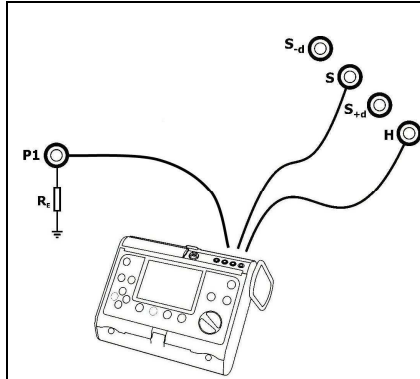

Figure 7. Connection of the meter.
- connect the earth resistance meter (MRU-XXX) to the sockets in accordance with Figure 7,